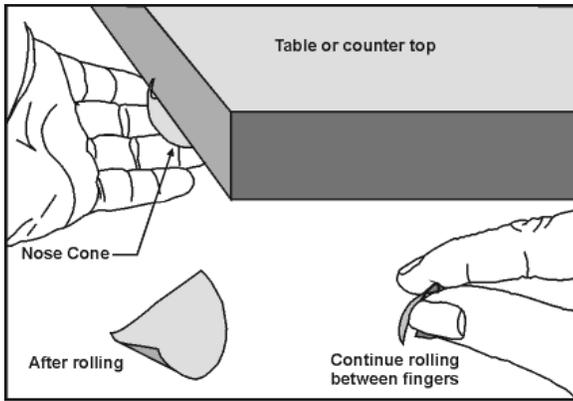

Figure 4
4. Using your razor knife cut out the **Nose Cone**. (**NOTE:** Take your time while working the Nose Cone into shape for gluing. A second Nose Cone is provided should the first one not come out right) Referring to **Figure 4**, set the curl in the nose cone, with the edge of a table, as you did for the Body Tube. After the curl has begun, continue rolling the Nose Cone between your fingers, bringing the edges together, until the Nose Cone can hold its shape.